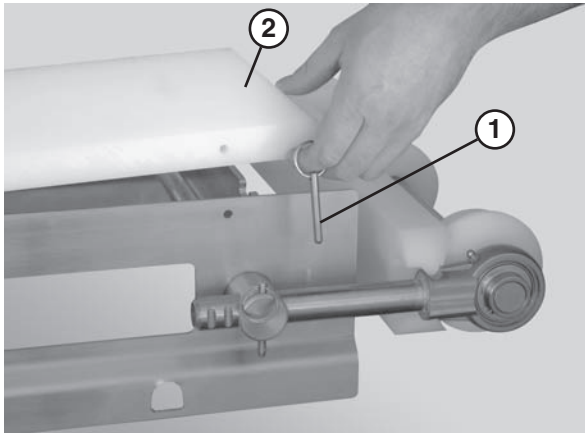

Figure 43
1. Remove the pull pins (Figure 43, item 1) that connect the guide (Figure 43, item 2) to the frame.